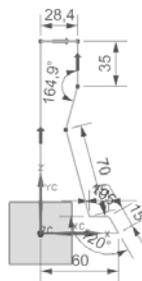

Figure 3-59 The resulting sketch displayed after adding the constraints
4. After applying the constraints, choose the **Display Sketch Constraints** tool from **Sketch Constraints** gallery of the **More** gallery in the **Direct Sketch** group, if it is not already chosen. The resulting sketch is shown in Figure 3-59.